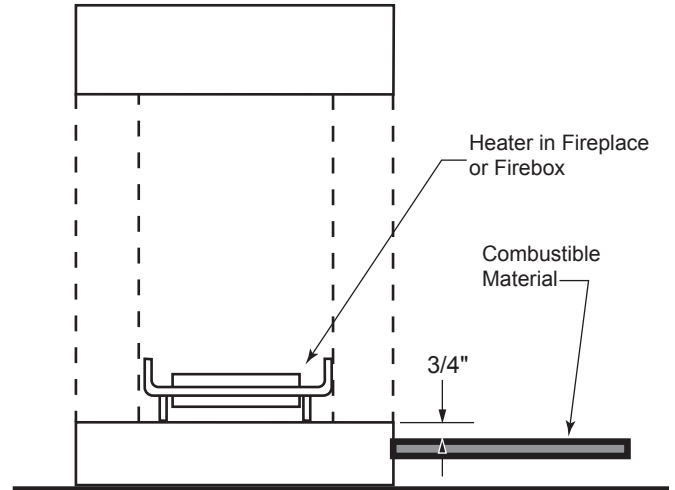

Figure 8 -
2. If installing unit into a vented firebox with a working damper, minimum clearances shown in *Figure 8* through *10* must be met
The gas log heater must be installed at least 3/4" above any combustible flooring material, such as carpeting or tile, which is closer than 14" to the base of the fireplace. The minimum distance must be maintained from the top surface of carpeting, tile, etc. *Figure 8*